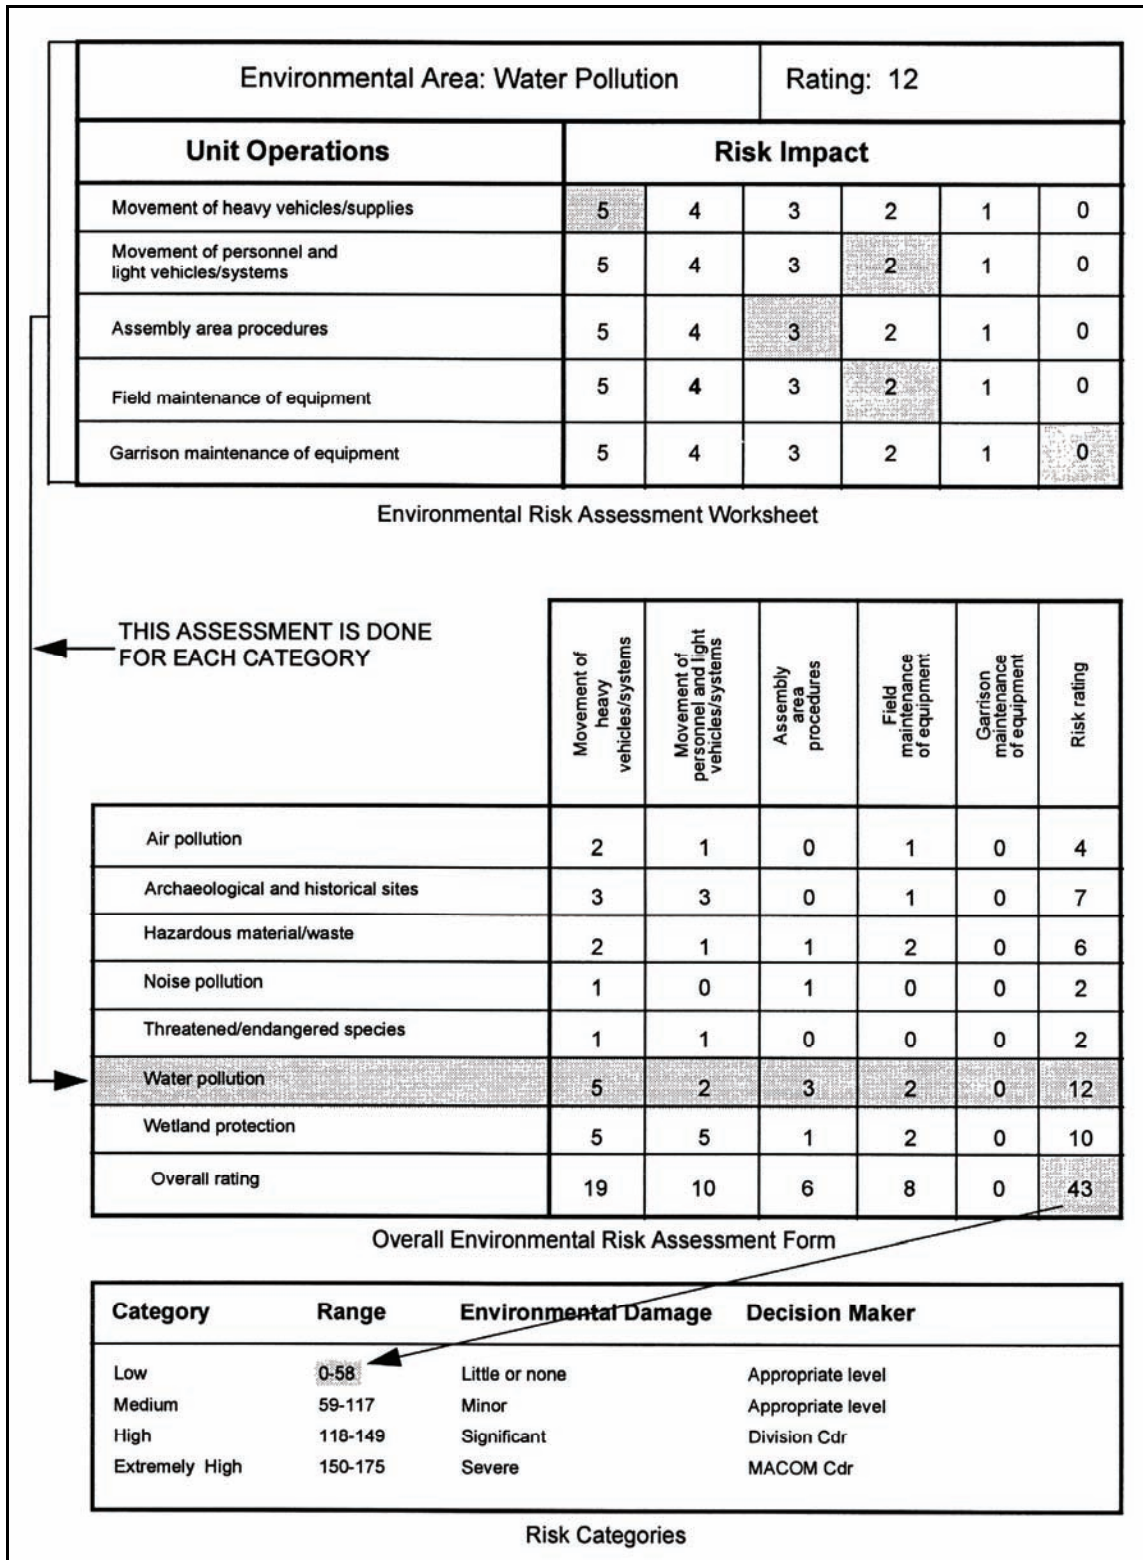

Figure 4-1. Environmental risk assessment worksheet (example).
4-3. Analyze potential severity of environmental degradation using environmental risk assessment matrixes (Figure 4-1). Severity of environmental degradation must be considered when determining the potential effect of an operation on the environment. The risk impact value is defined as an indicator of the severity of environmental degradation. Quantify the risk to the environment resulting from the operation as extremely high, medium, or low. Any environmental risk impact value should be determined conservatively. Consult with the environmental office for other local requirements relating to wildlife and natural vegetation.
- Complete an Environmental Risk Assessment Worksheet for each environmental area requiring assessment. For example, the top section of the example worksheet (Figure 4-1) addresses the environmental area of water pollution.
- (1) In the column labeled **Unit Operations**, list every operation or major task Soldiers will perform during training.
- (2) Under **Risk Impact**, rate each unit operation or major task on a 0-5 scale. Rate "0" as causing minimal risk impact on the environment, and "5" if major environmental impact is expected. In Figure 4-1, the appropriate rating for each unit operation has been highlighted in gray.
- Complete the Overall Risk Assessment Form (see example middle Figure 4-1).
- (1) List all the environmental areas (such as water pollution) in the first column.
- (2) List all unit operations in the next columns, saving the last column for a total *risk rating* of each environmental area.
- (3) Copy from the Environmental Risk Assessment Worksheet into this form section the assessed risk impact rating for each environmental area. For example, in Figure 4-1, **Movement of Heavy Vehicles/Supplies**, was rated a "5" on the worksheet for water pollution. That rating has been copied into the Overall Risk Assessment Form where the environmental area **Water Pollution** intersects with the unit operation **Movement of Heavy Vehicles/Systems**.
- (4) Add all the risk impact ratings for each environmental area and write that number in the last column labeled **Risk Rating**. The total risk rating for **Water Pollution** is 12.
- (5) After the risk rating for each environmental area has been computed, add all the risk ratings to get an overall rating. In the worksheet example, the overall rating for training is 43.
- 4-9. Compare the overall rating with the point totals in the Risk Categories section of the assessment form (see example bottom Figure 4-1). If the risk assessment score applied to the matrix falls into the low or medium risk categories, Stryker training can proceed with minimal environmental risk. If risk category is "high" or "extremely high," the environmental assessor's chain of command should be notified.